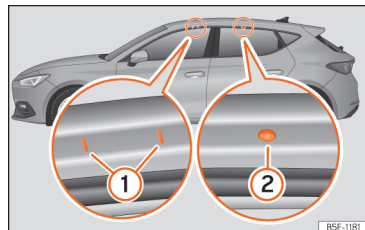

Fig. 196 Mounting points for the roof bars for the roof rack (Leon).
Valid for Leon: The front and rear attachment points ① and ② are only visible when the doors are open >>> Fig. 196.